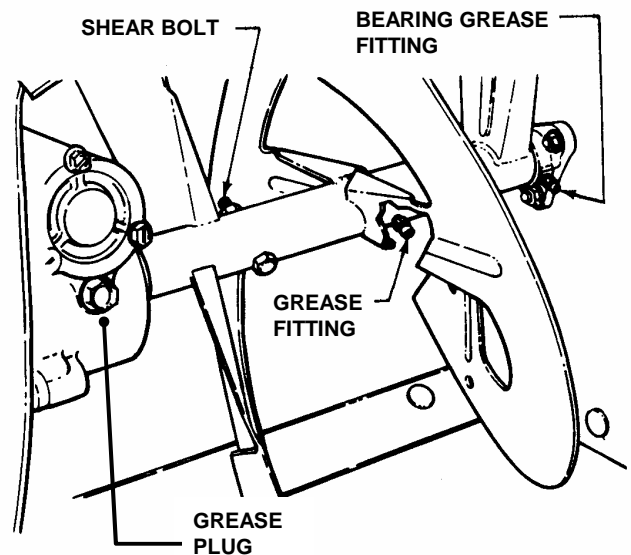

FIGURE 3.3
1. Before each season of operation, apply two shots of grease from a grease gun into gear case. Snapper suggests using Benalene 900. The grease plug for the gear case is located in front of the gear case. See Figure 3.3.
2. Before each season of operation, apply two shots of grease from a grease gun into each auger bearing. Snapper suggests using Benalene 900. The grease fitting for the auger bearing is located on each end of the auger. See Figure 3.3.
3. Before each season of operation, apply two shots of general purpose grease from a grease gun into the auger shaft. The grease fitting for the auger shaft is located in the middle of each auger. Remove shear bolts and rotate auger to distribute grease evenly around shaft. Reinstall shear bolts and nuts. Tighten to 5 to 10 ft. lb. of torque. See Figure 3.3.